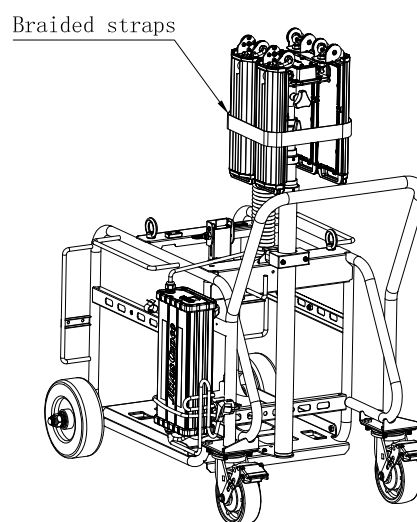

Figure 1
- (1) After the mains is plugged in, the screen of the power box displays "WELCOME", then displays the product name and WIFI name, such as figure 1, 2; Then go to the main screen, Luminaire brightness automatically increases from low to maximum!
- (2) The mobile phone is connected to this WIFI, user can control the lights by the mobile phone operating interface!